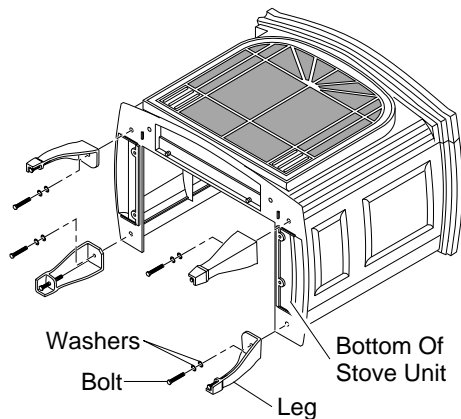

Figure 10 - Attaching Stove Legs
8. Fasten each leg to stove with four (4) M8 x 1.25 - 20mm bolts. Use a flat washer and lock washer with each bolt. Tighten bolts into threaded holes on stove body (see Figures 9 and Figure 10, page 6). Use an adjustable wrench or a 12mm socket.